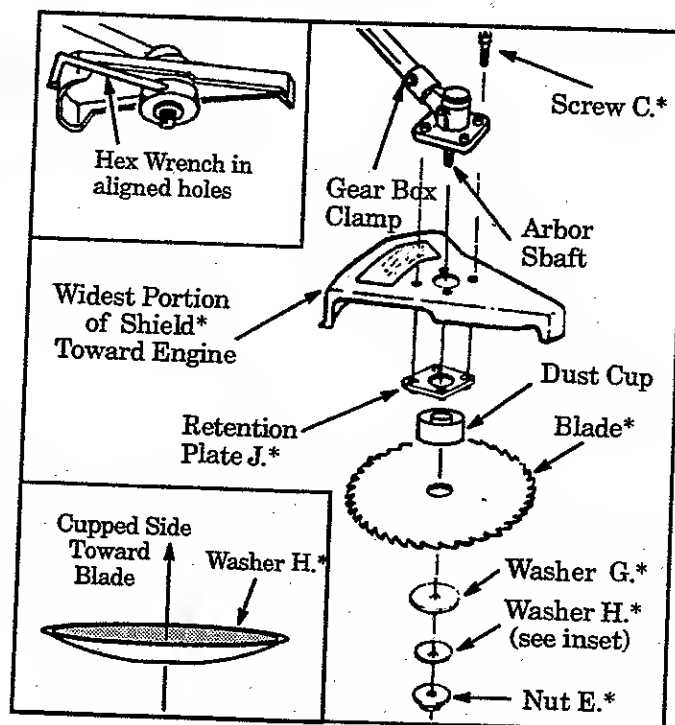

Figure 6
Failure to install the shield in the position shown in Figures 6 and 7 can result in serious injury to the operator. The length of the shield must be aligned with the length of the tube. Direct widest part of the shield toward the engine.
- Position the retention plate on the underside of the metal shield and align screw holes. Make sure the flat side of the plate is against the metal shield. Figure 6.
- Hold the retention plate in position and place the metal shield under the gear box. Align screw holes. Figure 6.
- h. Install blade over arbor shaft, making sure the hole in the center of the blade is fitted around the raised center on the dust cup. Figure 6.
**NOTE:** When installing blade, make sure teeth on blade are oriented as shown in Figure 6.
- i. Install the large flat washer "G.", cupped washer "H.", and nut "E." as shown in Figure 6. Be sure cupped washer "H." is installed as shown in Figure 6 (inset).
- k. Insert the large hex wrench (provided) into the aligned holes. Figure 6 (inset, upper left).